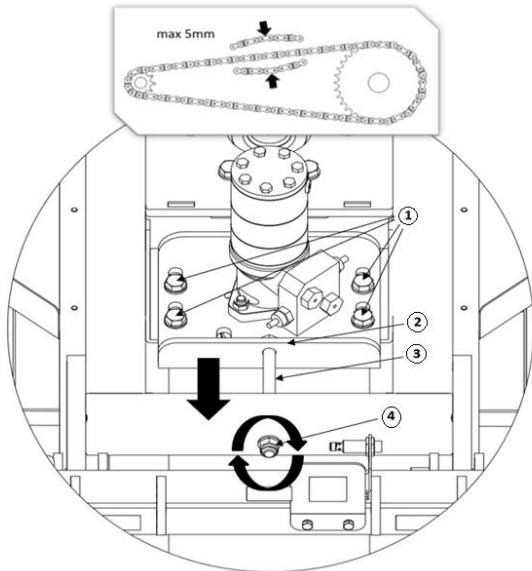

Figure 34 Adjusting the chain tension of the rotary frame
1. Loosen the bolt nuts (1) of the motor plate (2) size 24 wrench – Figure 34
2. Use the screw (3) and nut (4) to adjust the chain tension
4. Fix the motor plate (2).